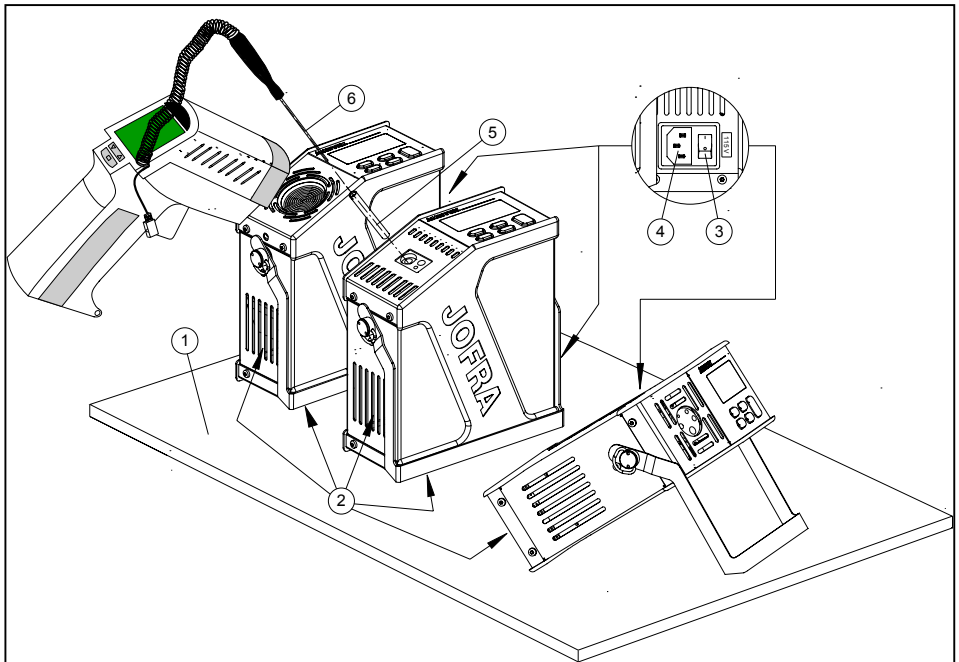

Fig. 1
## When setting up the calibrator, you must...(see fig. 1)
Insert the sensor as shown in Fig. 1, pos. 6.